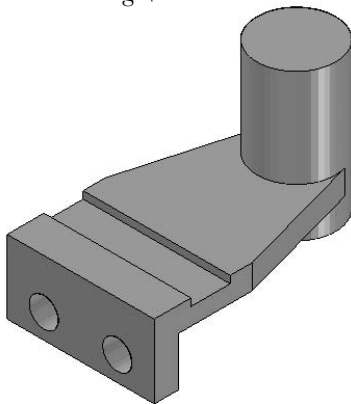

Figure 5-56 Model after creating the cutout feature
- Create two holes on the left face of the base feature using the **Cut** tool, as shown in Figure 5-56.
5. Move the cursor to the right of the model and left-click to specify the direction of the cutout feature. The model after creating the cutout feature is shown in Figure 5-56.